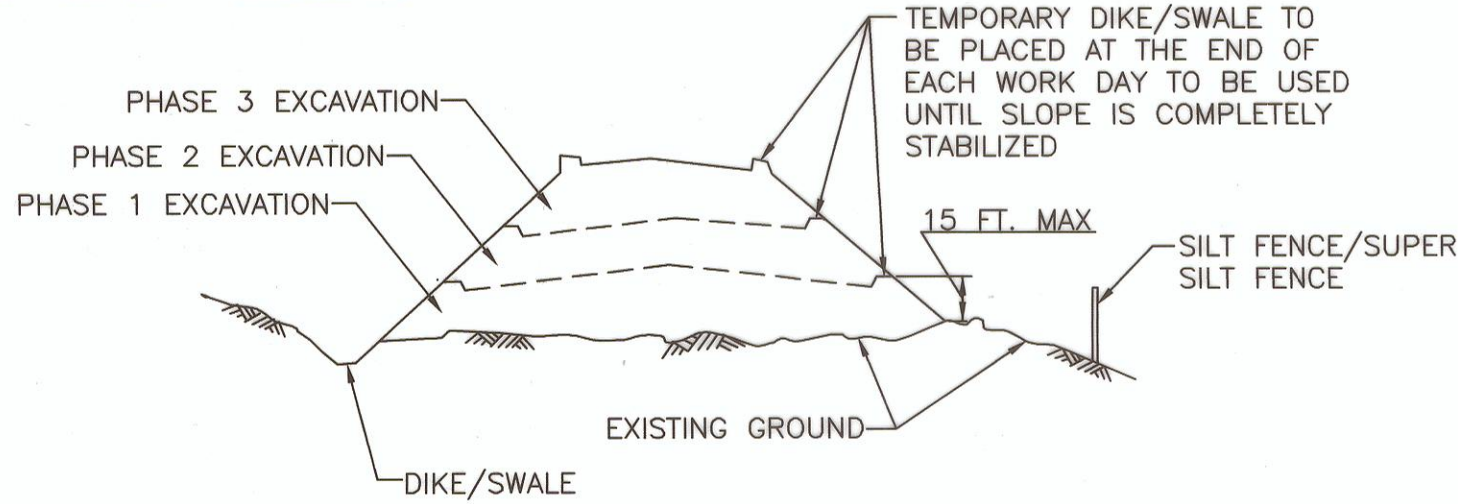

FIGURE B.2: INCREMENTAL STABILIZATION - FILL
- CONSTRUCTION SEQUENCE EXAMPLE (REFER TO FIGURE B.2):